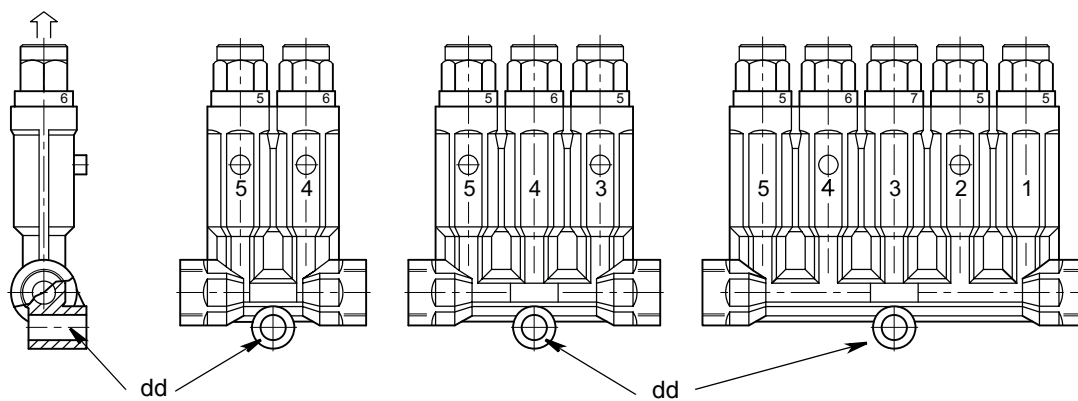

FIG. 8
- dd Mounting Hole Location: NOTE: 3400, 3410, 3900 and 3910 Models. For Model 3500 and 3510 mounting hole locations see FIG. 8,.